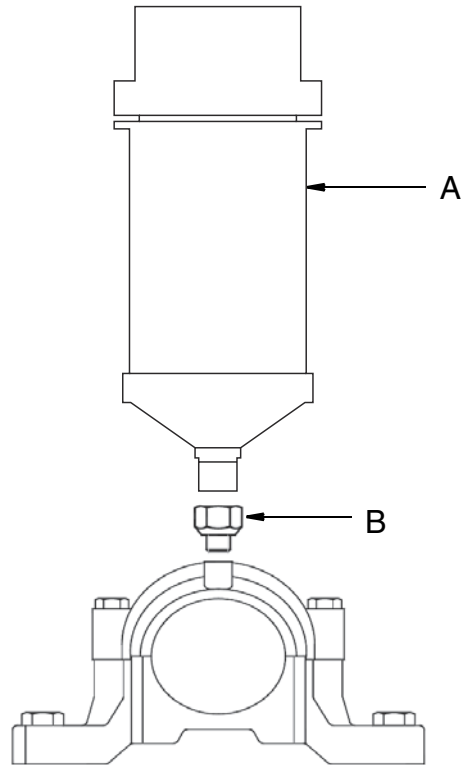
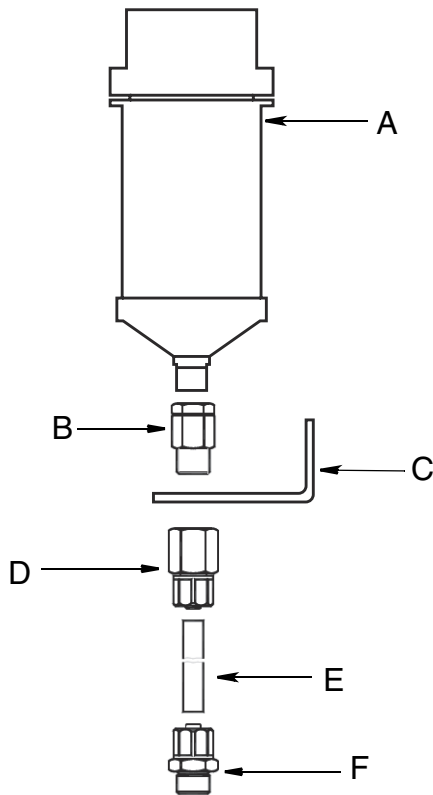
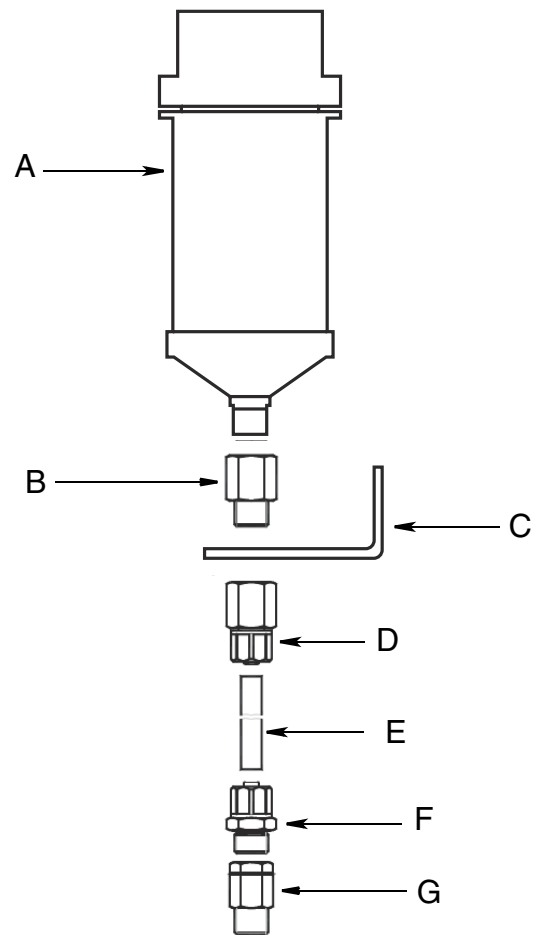

FIG. 5
FIG. 6
FIG. 7
- Installations up to 3 ft away from the lubrication point can be mounted with flexible tubes and a bracket. Refer to FIG. 5, FIG. 6 and FIG. 7 for examples of correct remote mounting installations.